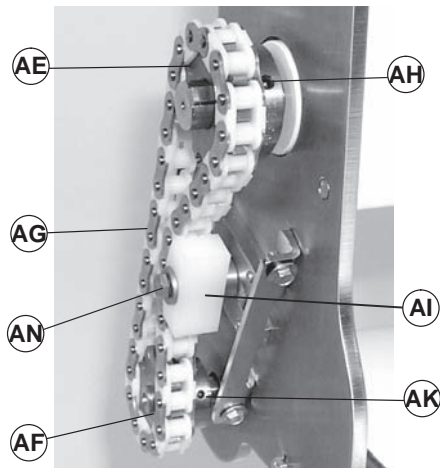

Figure 24
- Loosen timing chain tensioner screw (Figure 24, item AN).
Make sure center of timing chain (Figure 24, item AG) aligns with center of chain tensioner (AI). If necessary, move drive sprocket (AE) in or out. Tighten set screws (AH). Also, if necessary, move driven sprocket (AF) in or out. Tighten set screws (AK).